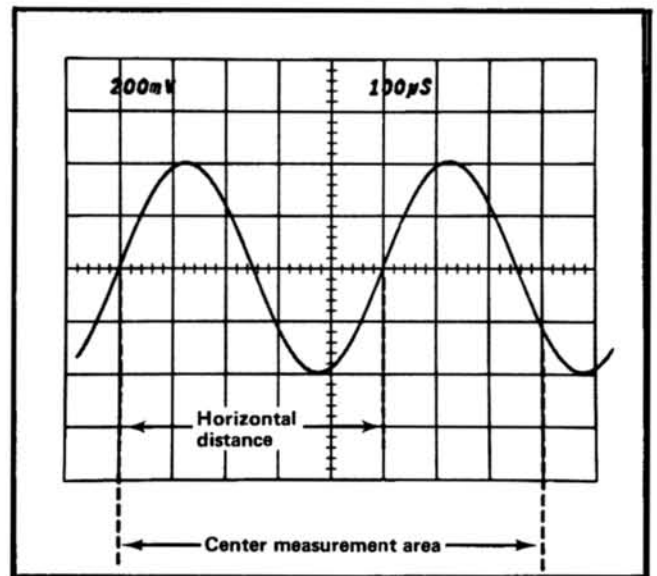

Fig. 2-10. Measuring the time duration between points on a waveform.
**Example.** Assume that the distance between the time measurement points is five divisions (see Fig. 2-10), and the TIME/DIV switch is set to .1 ms with the magnifier to X1. Using the formula:
**Example.** The frequency of the signal shown in Fig. 2-10 which has a time duration of 0.5 milliseconds is: